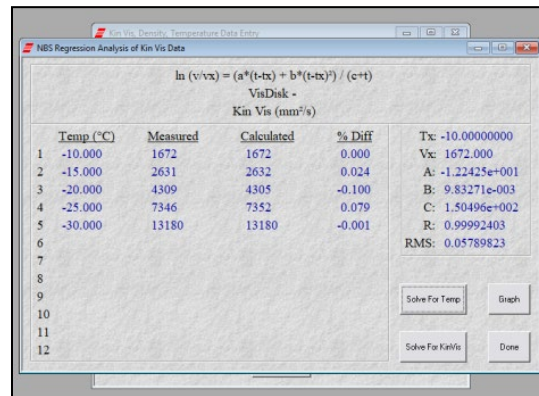

Figure 59: NBS Regression Analysis of Kin Vis Window
- After clicking Done, the **NBS Regression Analysis of Kin Vis Data** window opens as shown in Figure 59.